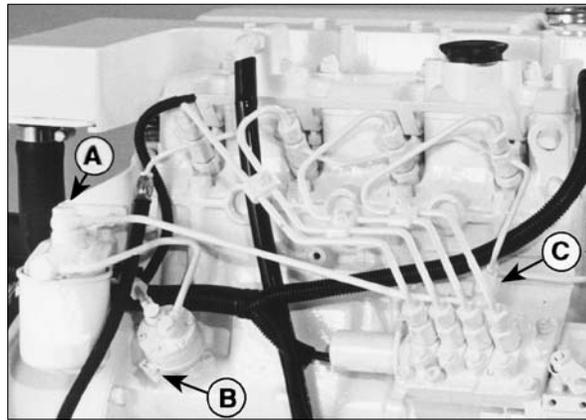

Figure 10: M844k/ M844Lk Fuel System.
2. Loosen bleed bolt "A" (Figure 10) on top of the filter. Pump hand primer "B" on fuel lift pump until pure fuel (no bubbles) escapes from bleed bolt "A". Tighten bleed screw "A".